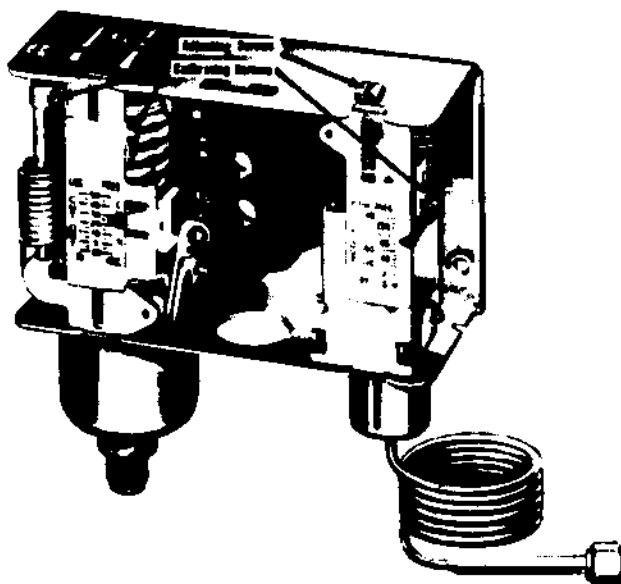

FIGURE 6
- (c) Make certain that the suction and discharge pressures are above zero pounds pressure (1 to 2 psig). The bellows is connected to the compressor with a full size 1/4" copper tube with flare nuts at both ends of the tube (Figure 6). With these switches the connection is broken at the bellows on the switch. If connections are broken with a slight positive pressure within the compressor and the openings to the compressor quickly plugged or capped while bleeding refrigerant, no air or dirt will enter the compressor. If this practice is followed when removing and reinstalling the controls it will eliminate the need for compressor evacuation.
Both the high and low pressure sections of each switch can be adjusted. The settings should be checked after adjustments are made and the dial recalibrated if necessary. Figures 6 and 7 show the adjusting and calibrating screws.